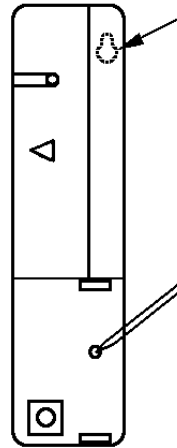

Fig. 7
15. You can use the enclosed double-sided adhesive tape to mount the sensor and the magnet. If you prefer a permanent attachment with screws, use a screw driver to pierce through the bottom at the marked location (Fig. 7).